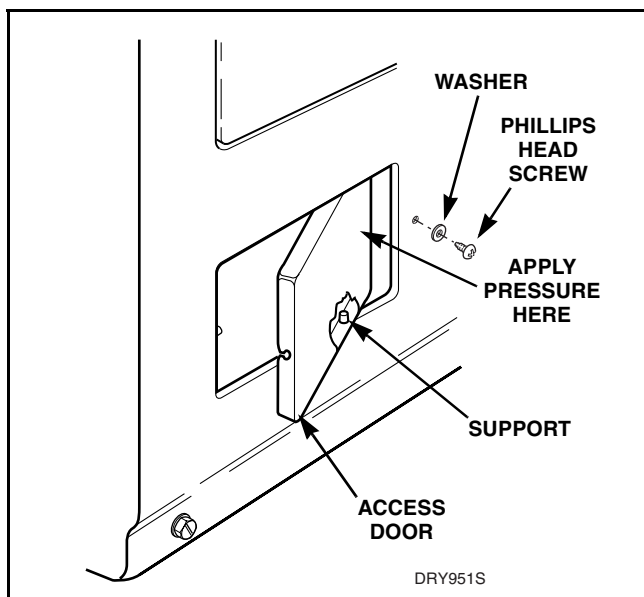
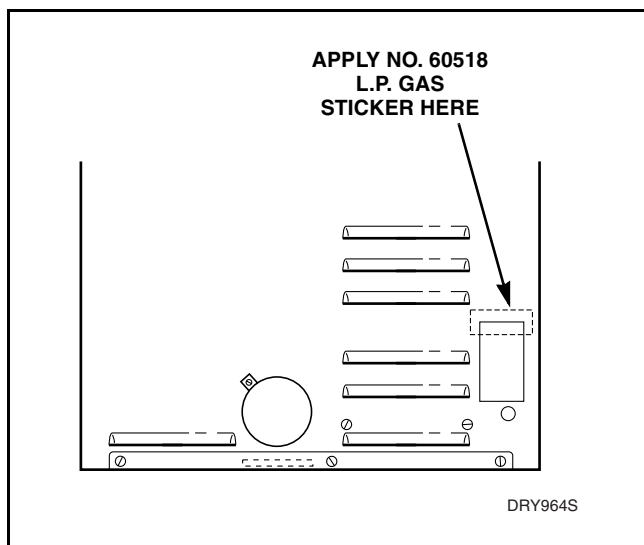

Figure 38
Figure 41
- a. Remove Phillips head screw and washer holding the access door to the front panel. Refer to *Figure 38*.
- b. Apply thumb pressure to the right edge of the door. When the door opens, move the door to the left to disengage from the door supports. Refer to *Figure 38*.
- Remove Phillips head screw (if present), or unlock access door lock (if present), then apply thumb pressure to the right side of access door. Refer to *Figure 38*. When door opens, move door to the left to disengage from door supports.
- Remove vent screw and install No. 58754 Block-Open Plug. Refer to *Figure 41*.
- i. Sign and date each of the two No. 60518 L.P. Gas Stickers. Install one of the No. 60518 L.P. Gas Stickers over the top three lines of the old sticker on rear of cabinet. Refer to *Figure 41*. Then place the second sticker over the top three lines of the old sticker located on backside of access door. Refer to *Figure 38*.
- i. Sign and date each of the two No. 60519 Natural Gas Stickers. Install one of the No. 60519 Natural Gas Stickers over the top three lines of the old sticker on rear of cabinet. Refer to *Figure 41*. Then place the second sticker over the top three lines of the old sticker located on backside of access door. Refer to *Figure 38*.